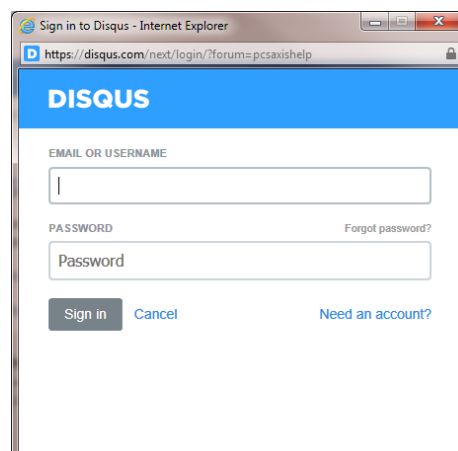

Figure 1-6. Disqus Login
- b Provide login credentials for your Disqus account when the *Sign in to Disqus* dialog box opens (Figure 1-6).